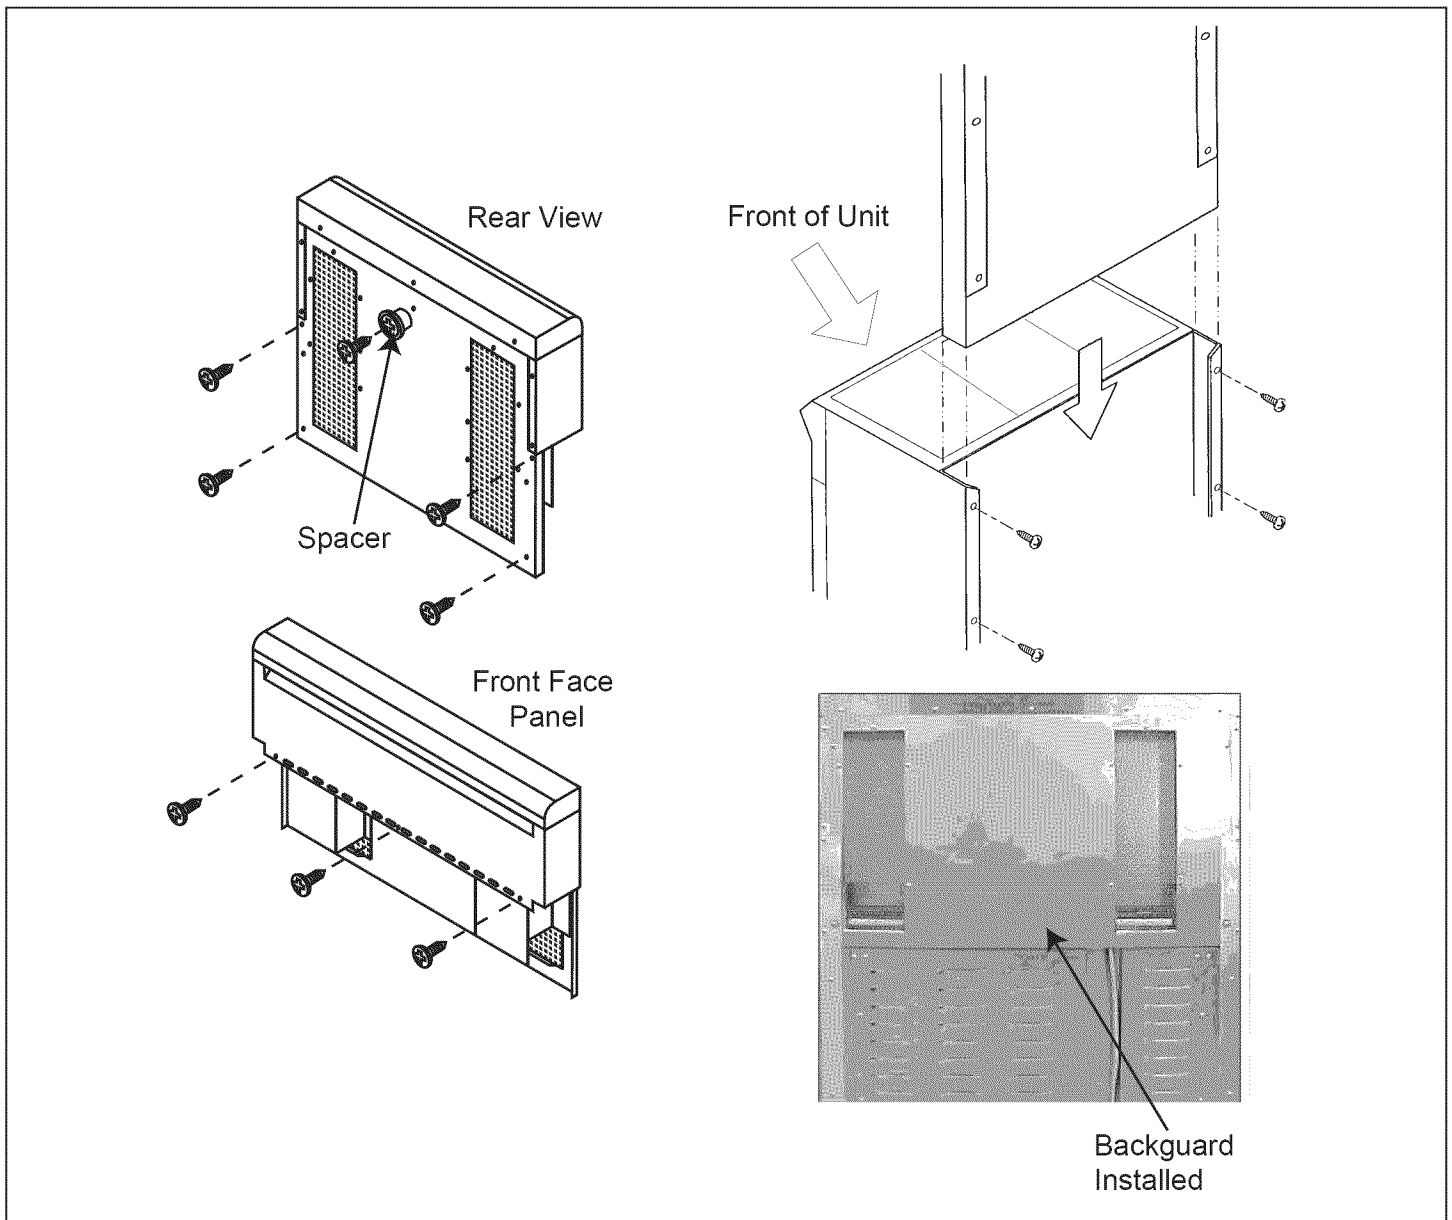

Figure 14: Backguard Installation
Align the back panel of accessory with the flange on the range side panel right and left rear corners. The backguard is inserted inside the guide channels on the back of the range. (See Figure 14.)
Install four (4) screws to secure the backguard's back panel to the guide channels on the back of the range. Install one (1) screw and spacer to center hole location. (See Figure 14.)